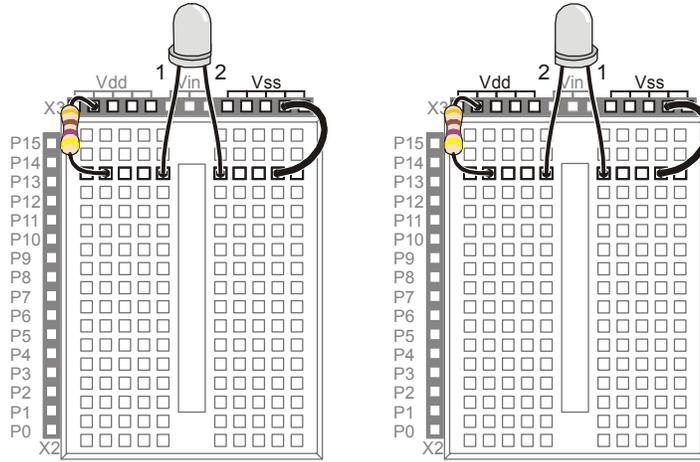

Figure 2-19
Figure 2-19 shows the manual test for the bi-color LED.
- √ Build the circuit shown on the left side of Figure 2-19.
- √ Modify your circuit so that it matches the right side of Figure 2-19.